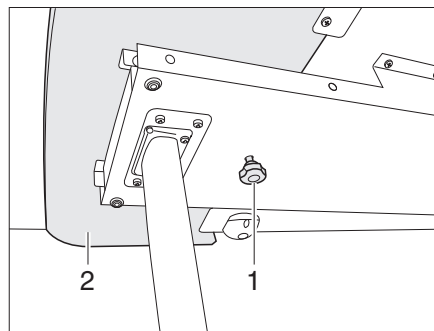
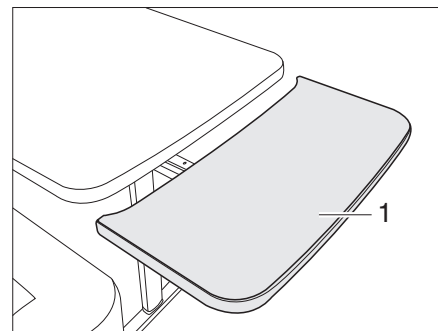

Fig. 93 Lock for table-top extension
Fig. 94 Table-top extension
- Loosen knurled screw (Fig. 93,1).
- Pull out the table-top extension (Fig. 93,2) as far as possible (Fig. 94).
- Guide table-top extension (Fig. 94,1) upwards in a circular movement. The table-top extension lies flush with the table-top.
- Pull table-top extension (Fig. 94,1) away from the table-top as far as it will go and press downwards against the resistance of the retaining springs. The table-top extension moves downwards in a circular movement (Fig. 94).
- Tighten knurled screw (Fig. 93,1).